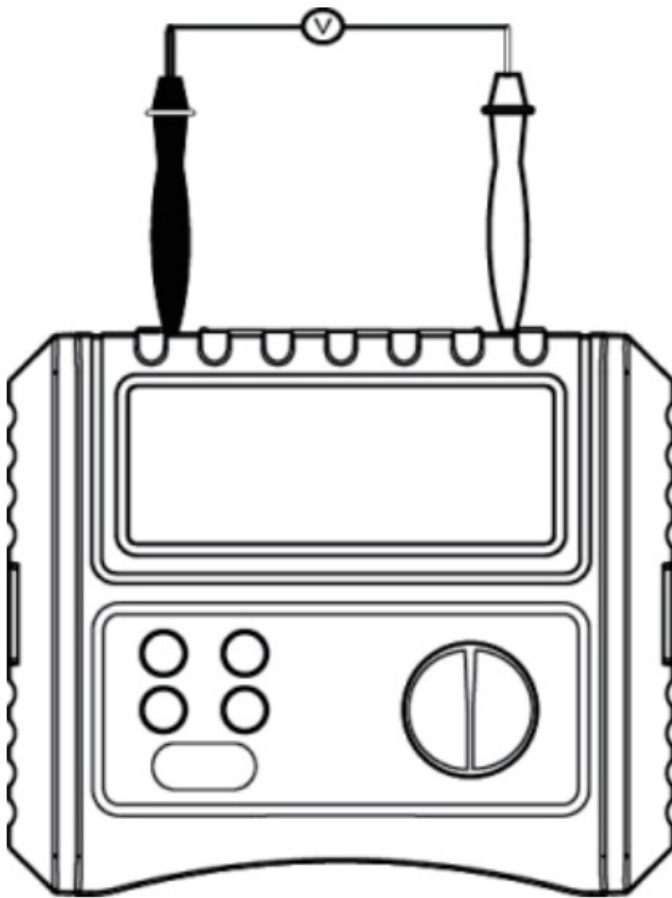

Figure 5
1. Set the rotary switch to Volts ,Connect as shown in Figure 5: